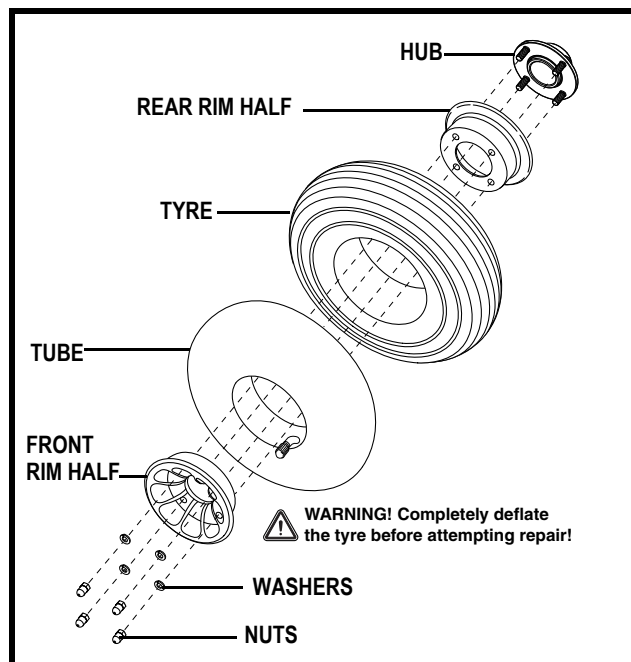

Figure 29. Drive Wheel Assembly
6. Remove the nuts and washers and separate the rim halves. See figure 29.